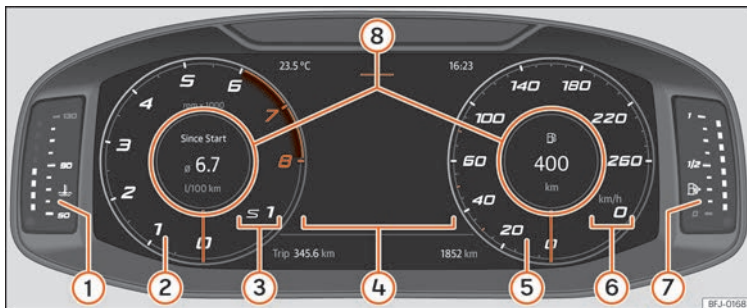

Fig. 58 SEAT Digital Cockpit on the instrument panel (classic view).
In *Classic View* and *Semicircular watches* it is possible to customise the information displayed under **Information Profiles** » **Fig. 58** ⑧.
»» Fig. 58.